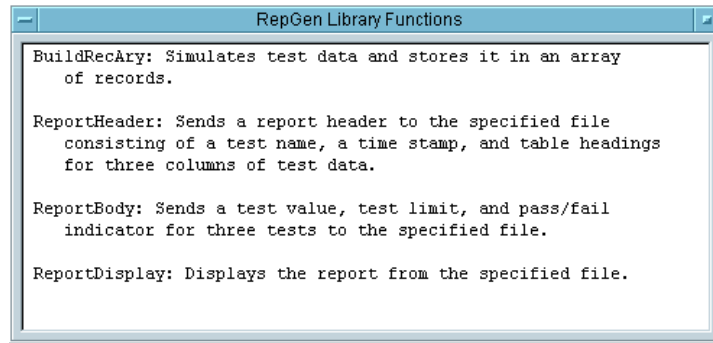

Figure 8-17. The RepGen.vee Library of UserFunctions
3. Select Display ⇒ Note Pad and type the UserFunction descriptions similar to the ones shown in Figure 8-17. Then save the program as RepGen.vee.